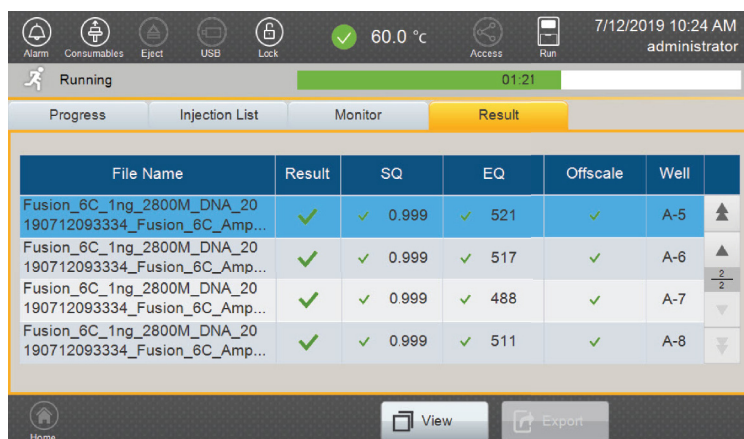
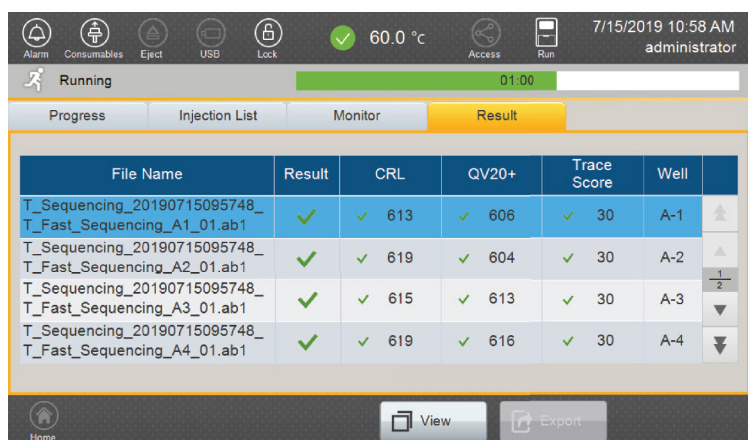

Figure 100. Fragment Analysis 'Result' tab.
Figure 101. Sequencing Analysis 'Result' tab.
Use the scroll buttons on the right side of the list to review the summary results for each sample in the run (Figure 100 and Figure 101).
1. Select the appropriate sample from the review table (Figure 100 and Figure 101), and then select **View** in the footer to open the 'Graph' screen.
- From the 'Result' tab, select the specific sample from the displayed list (Figure 100 and Figure 101).